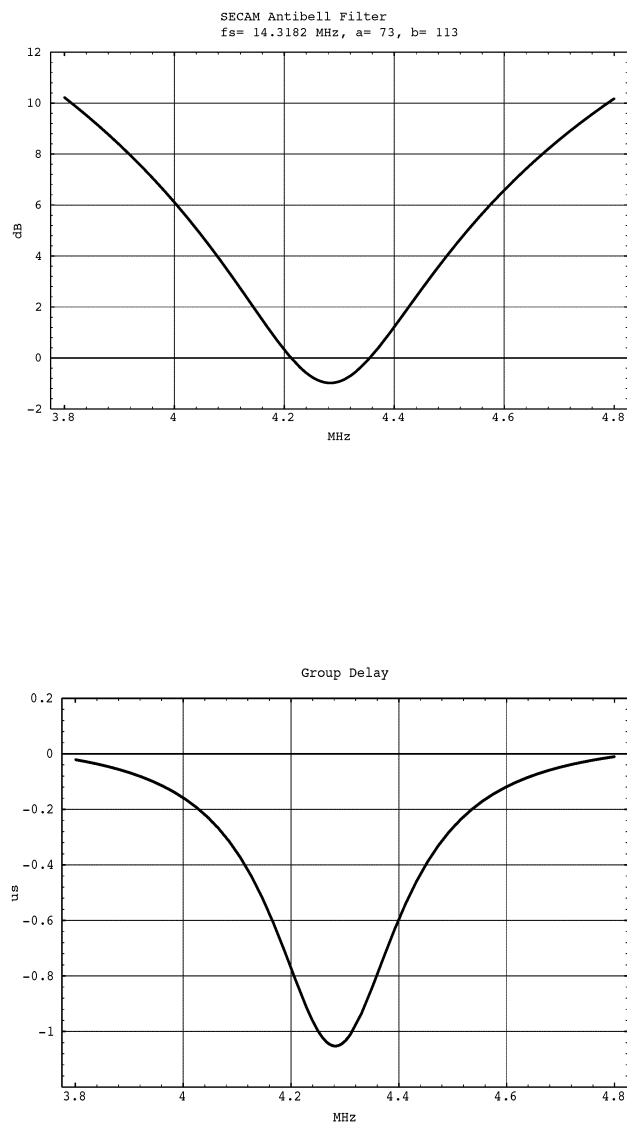

Fig. 2–5: Frequency Response and Group Delay of Secam Antibell Filter
The SECAM antibell filter is a transversal filter with two coefficients. The description of the transfer function can be found in the item 4.1.6 ‘Programming’. The correct center frequency can be adjusted with a main clock frequency above 26 MHz. The typical amplitude and group delay transfer characteristics are shown in figure 2–5. The filter runs with half the main clock frequency.